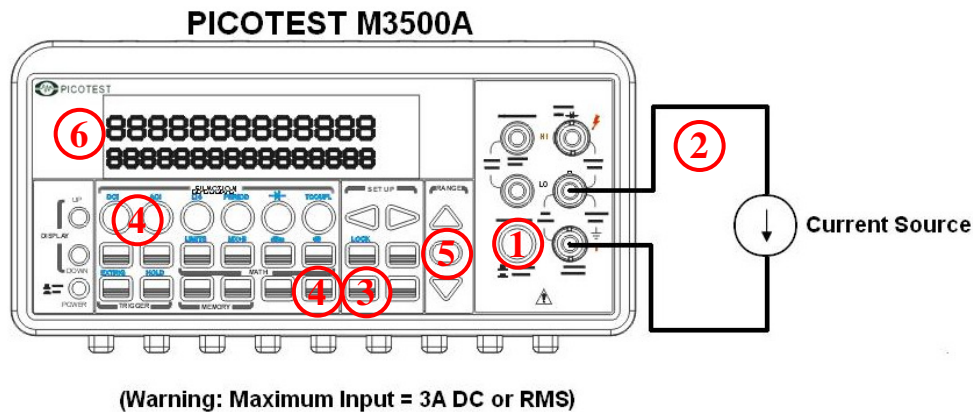

Figure 3-4
The ranges for DC current measurements in M3500A are 10mA, 100mA, 1A and 3A. For AC current measurements, the range is 1A with a sensitivity of 1 μ A to 3A AC-Coupled TRMS with a sensitivity of 10 μ A. **Figure 3-4** and **3-5** show you how to measure DC/AC currents in M3500A.
- ① Selects input signal connections on front or rear panel.
- ② Connect the test leads to the terminals as shown in **Figure 3-4**.
- ③ Set RESOLUTION of DCI (Refer to 4.1.3), BANDWIDTH of ACI (Refer to 4.1.2.1) or skip this step if default is to be used.
- ④ Press SHIFT+DCV or SHIFT+ACV buttons for DCI or ACI measurement.
- ⑤ Select the auto-range function by pressing AUTO button on the front panel or use $\triangle$ and ∇ buttons to select desired range.
- ⑥ Connect test leads to your source signal and observe the reading shown on the display. If the input signal is greater than the allowed range, an overflow message "OVLD" will be displayed.